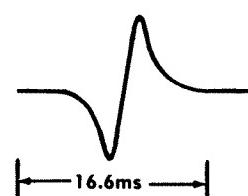

Figure 6-2 . Tac Pulse
2. Set the RECORD-PLAY lever to RECORD. Set the TRIGGERING MODE of the oscilloscope to INT and connect the probe of the oscilloscope to TP201. Check the TAC pulse, Figure 6-2. It should be 1.5V to 1.8V negative. If the voltage is larger, adjust the pole piece by moving the arm to the left or to the right of the center tab located on the bracket below the rotating disc. Moving the pole piece to the right or left reduces the pulse amplitude.